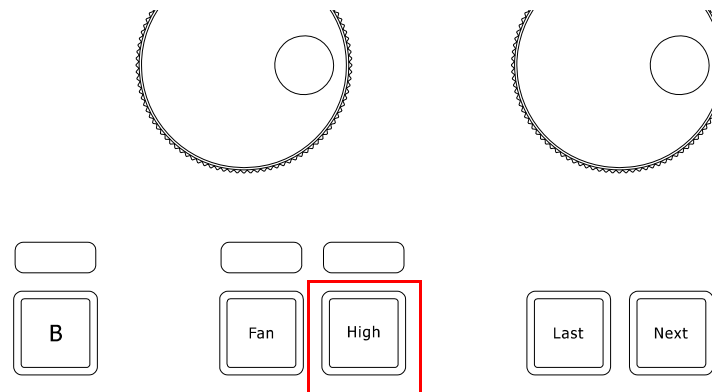

Figure 154: Programming Keys - Highlight Button
- 2) Press the [HIGHLIGHT] key (Figure 154). The lights will keep their position on stage, but other attributes may change to the highlight value set in the library.